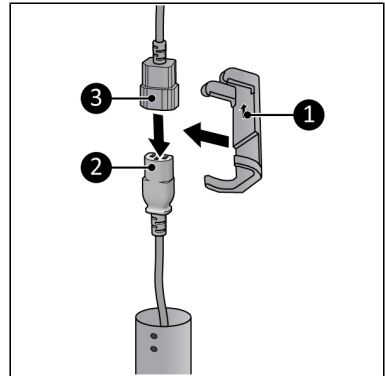

Figure 20.
6. Connect the female plug (Figure 20, pos. 2) to the plug connector of the heating cap (Figure 20, pos. 3).
7. Secure this connection using the clamp (Figure 20, pos. 1). Make sure the arrow points to the heating cap.